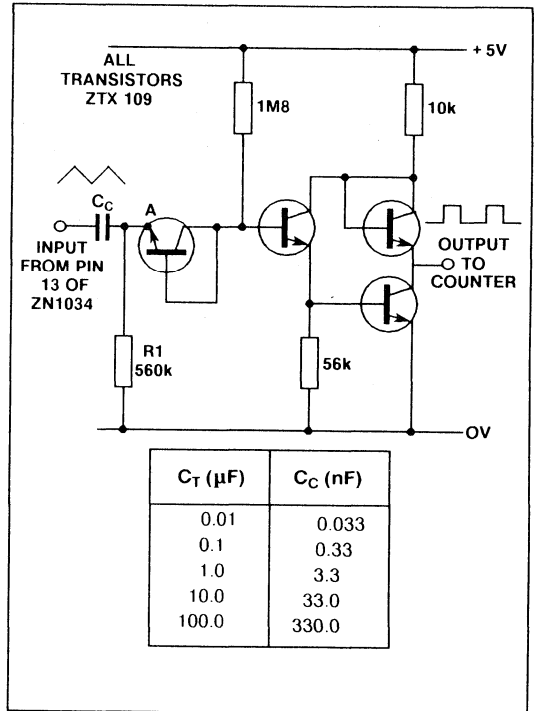

Fig. 31
- (b) A capacitively coupled probe illustrated in Fig. 31 enables calibration accuracies of better than 0.2% to be obtained.